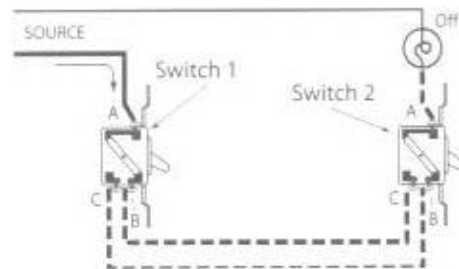
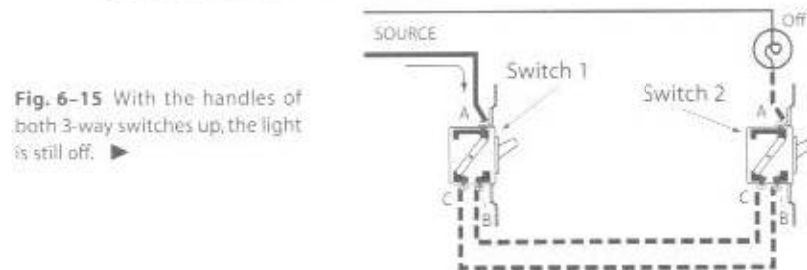
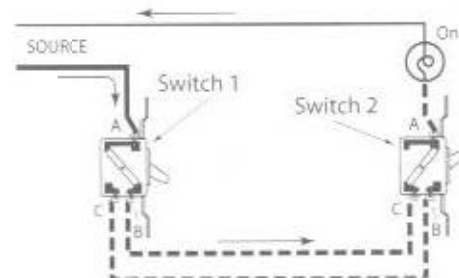

Fig. 6-14 A light controlled by two 3-way switches. With both handles down, the light is off.
Fig. 6-15 With the handles of both 3-way switches up, the light is still off.
Fig. 6-16 Three-way switch: with one handle down and the other up, the light is now on. Trace the current along the arrows.
**Three-way switches** The switch used for controlling a light from one point is known as a “single pole” switch. “Three way” switches allow you to control a light from two points (not three, despite the name). With three-way switches you can turn a hall light on or off from upstairs and downstairs, or a garage light from house and garage, or a yard light from house and barn. Such switches have three different terminals for wires. Their internal construction is similar to Fig. 6-13. In one position of the handle, terminal A is connected inside the switch to terminal C; in the other position, terminal A is connected to terminal B. Usually, the common terminal A is identified by being a darker color than the other terminals which are natural brass. Study the diagram of Fig. 6-14 on page 57 in which the handles of both switches are down. The current can be traced from SOURCE over the black wire through Switch 1, through terminal A, out through terminal B and up to terminal C of Switch 2, but there it stops. The light is off.
Next see Fig. 6-15 where the handles of both switches are up. The current can be traced as before from SOURCE over the black wire through Switch 1, through terminal A, but this time out through terminal C, and from there up to terminal B of Switch 2. There it stops and the light is off.
Now examine the diagrams of Figs. 6-16 and 6-17. In both diagrams the handle of one switch is up, the other down. In each case the current can be traced from SOURCE over the black wire, through both switches, through the lamp, and back to SOURCE. The light in both cases is on. In the case of either Fig. 6-16 or Fig. 6-17, throwing either switch to the opposite position changes the diagram back to either Fig. 6-14 or Fig. 6-15, and the light is off. In other words, the light can be turned on and off from either switch.